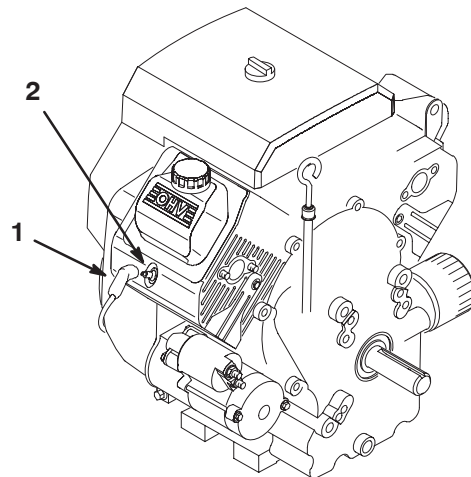

Figure 30
3. Pull the wires off the spark plugs (Fig. 30).
4. Push the wires onto the spark plugs (Fig. 30).